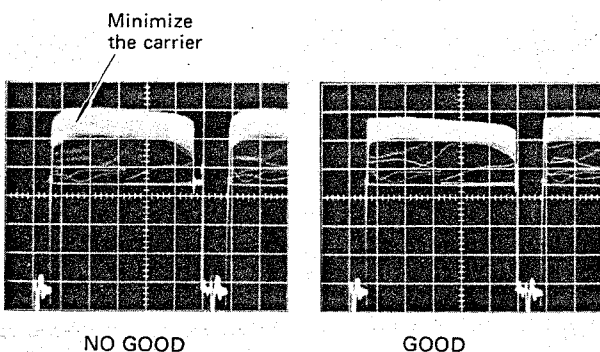

Fig. 6-4-11
- Adjust H. SIZE VR222 so that the carrier(3.58MHz) on the Y signal at TP303 is minimum. (Fig. 6-4-11)